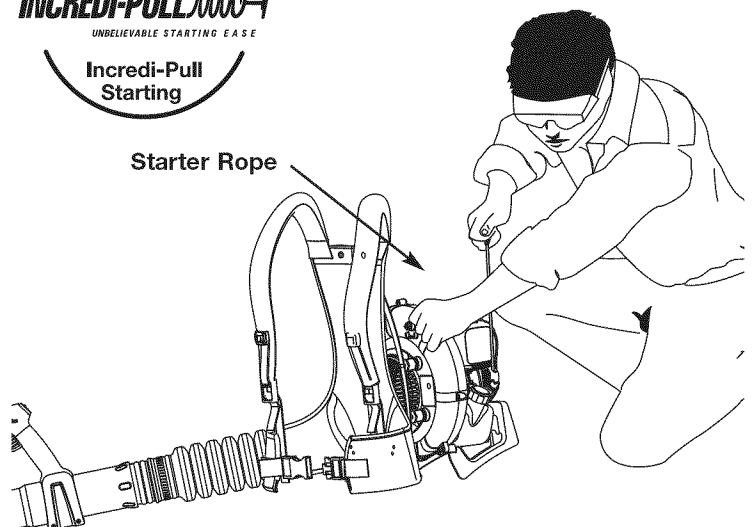

Fig. 17
WARNING: Avoid accidental starting. Make sure you are in the starting position when pulling the starter rope (Fig. 17). To avoid serious injury, the operator and unit must be in a stable position while starting. To avoid serious personal injury, make sure that the blower tube is locked in place or firmly installed.
5. Crouch in the starting position (Fig. 17) and pull the starter rope out until you feel some resistance. This is usually around 2–4 inches. Pull 4 times in smooth and rapid pulls.